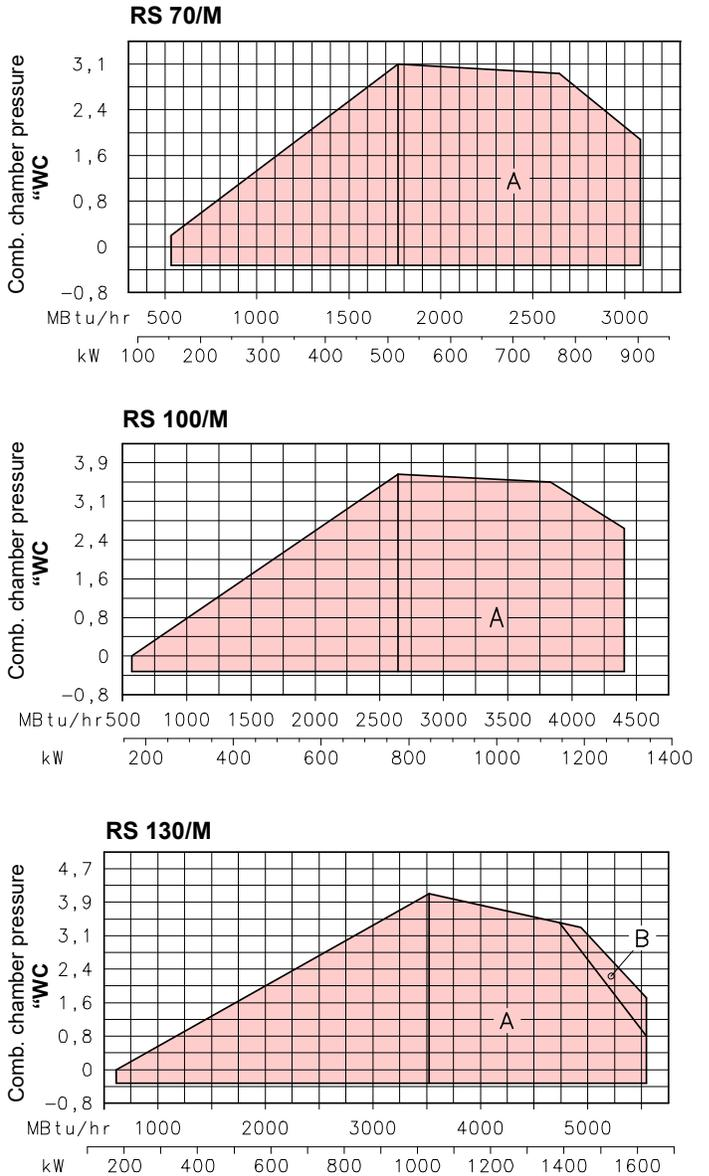

Fig. 2
- **MAXIMUM OUTPUT** must be selected in area **A** (Fig. 2).